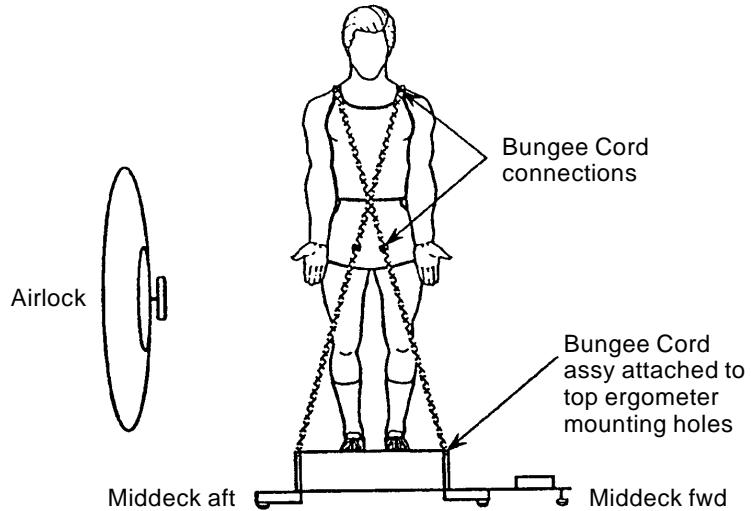

Figure 3-4.— Alternate exercise bungee attachments – front view (facing stbd).
4. Attach Bungees to opposite corners of Ergometer frame crossing Bungees over shoulders (figs 3-4, 3-5)